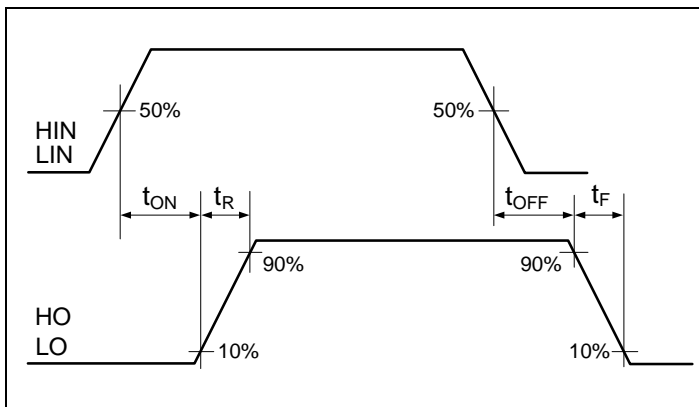
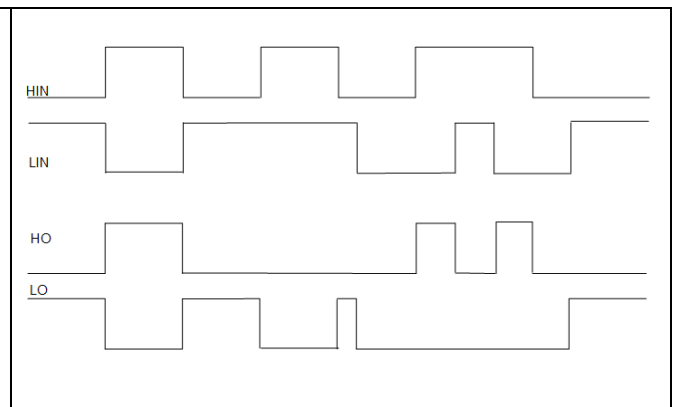

Figure 6 Switching timing diagram
Figure 7 Input/output logic diagram
The relationships between the input and output signals of the 2ED2182 (4) S06F (J) are illustrated below in Figure 6 and Figure 7. From these figures, we can see the definitions of several timing parameters (i.e. t_{ON} , t_{OFF} , t_R , and t_F) associated with this device.